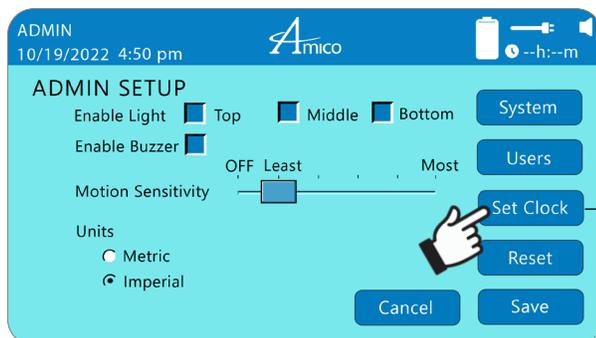

Figure 64
1. Tap on **“SET CLOCK”** (Figure 64) to set the clock. Using the **ARROW** icons, set the time and date in the desired format.